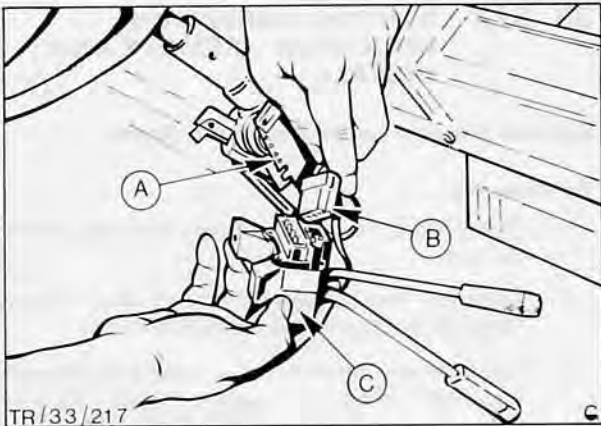

Fig. 34. Disconnecting switch
4. Unplug light/windscreen wiper switch from loom, Fig. 34.